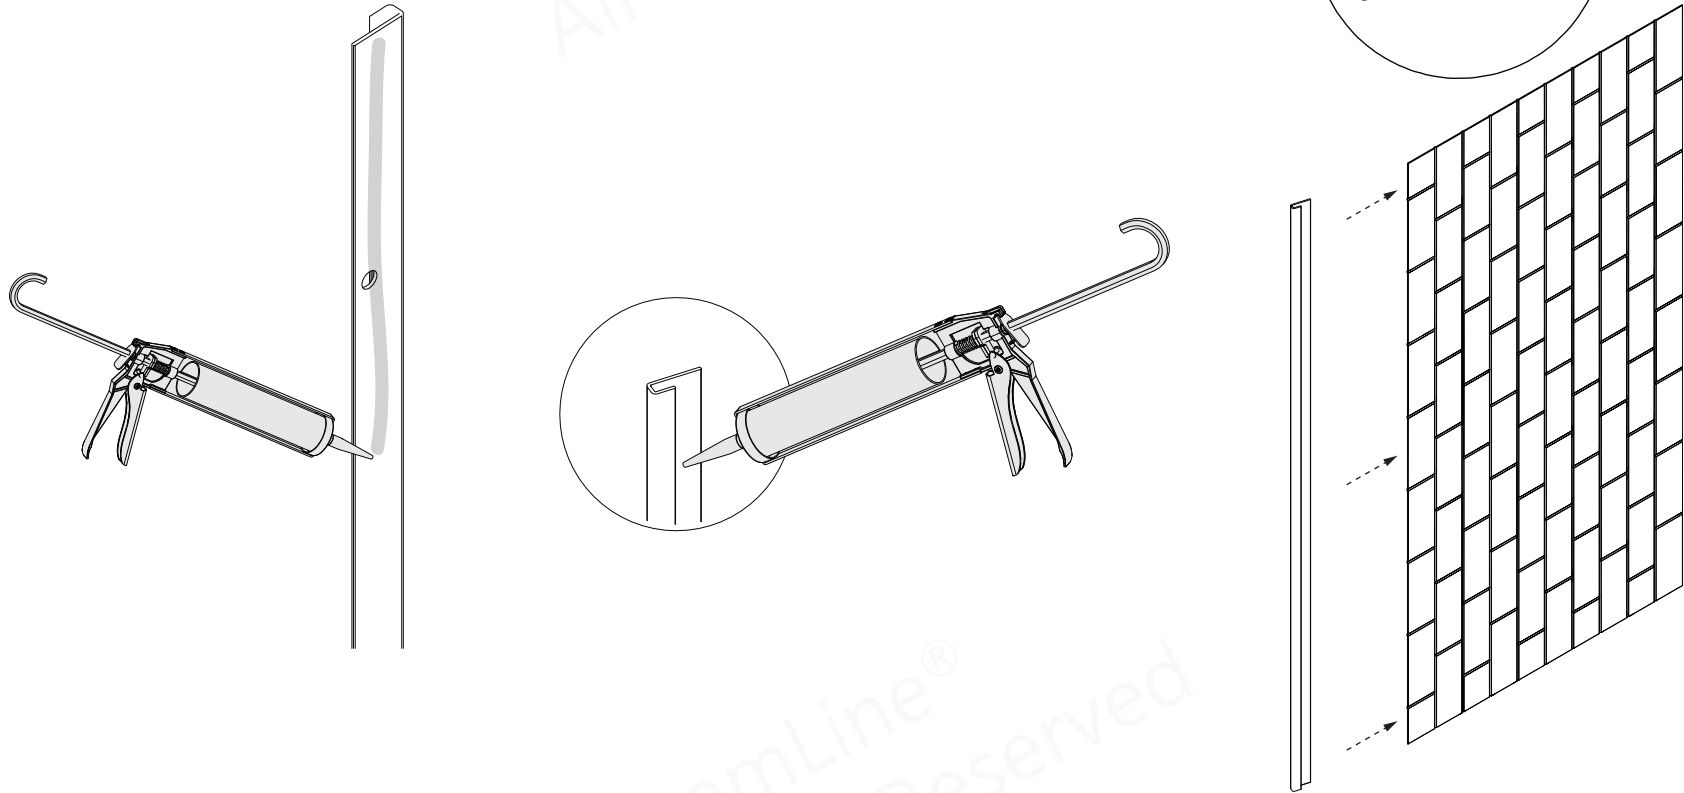

**Fig 17**
**17.** Apply tub surround adhesive to the back surface of both **Q-Wall Side Panels**. Peel back the protective plastic film along the edge before inserting into the installed **J-Strips** in the back corners. Press firmly over the entire surface, paying special attention to the edges and corners. Remove the rest of the protective plastic film. **Fig 17**